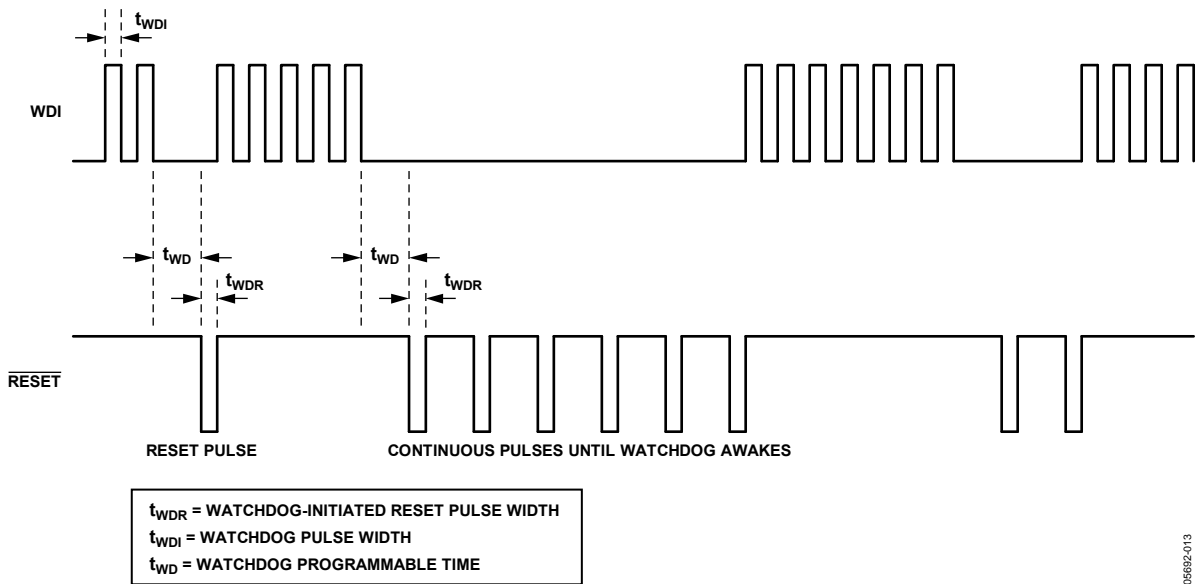
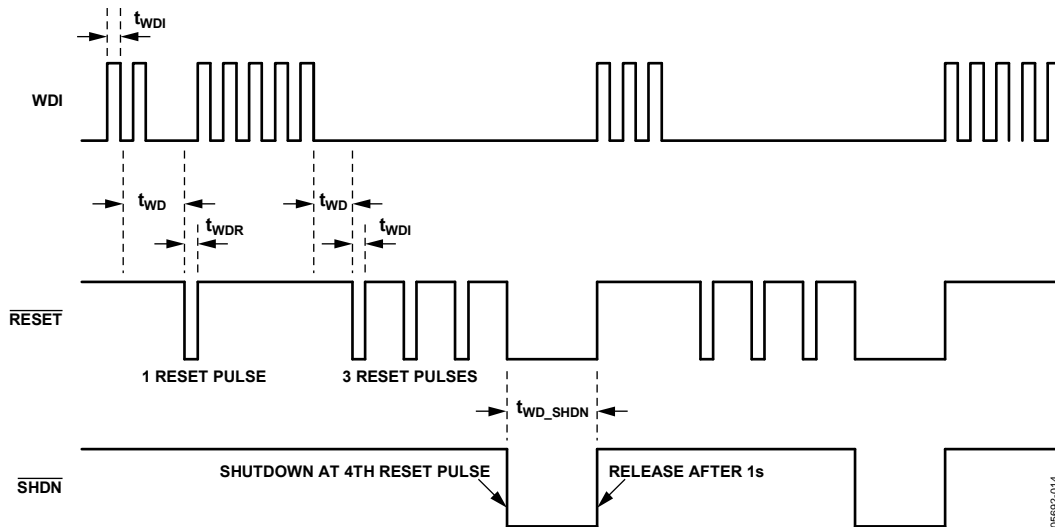

Figure 13. Standard Watchdog—Pulsing Reset Until Watchdog Awakes
Figure 14. Advanced Watchdog—SHDN Asserted After Three Trials of Resetting the Watchdog (SHDN Released After 1 Second and the Cycle Repeats)
In the default standard watchdog mode, if WDI remains either high or low for longer than the timeout period, t_{WD} , a RESET pulse is generated in an attempt to allow the system processor to re-establish the WDI signal. The RESET pulses continue indefinitely until a valid watchdog signal, a rising or falling edge signal at the WDI, is received. The internal watchdog timer clears whenever a reset is asserted. The standard WDI and RESET timing diagrams are shown in Figure 13.
The AD5100 can be programmed into an advanced watchdog mode. In this mode, if WDI remains either high or low for longer than the timeout period, t_{WD} , a RESET pulse is generated, as per standard mode. However, if the WDI input remains inactive after three such RESET pulses, concurrent with the fourth RESET pulse, SHDN is also asserted. SHDN is released after 1 second. These actions repeat indefinitely (unless action is taken by the user), if the processor is not responding. The advanced WDI and RESET timing diagrams are shown in Figure 14.
- When $\overline{\text{SHDN}}$ output is asserted (see Figure 7 and Figure 14); $\overline{\text{RESET}}$ follows $\overline{\text{SHDN}}$ hold and delay timings if triggered by the $\overline{\text{SHDN}}$ output
- When the external monitoring processor cannot issue the necessary WDI signal (see Figure 13 and Figure 14)